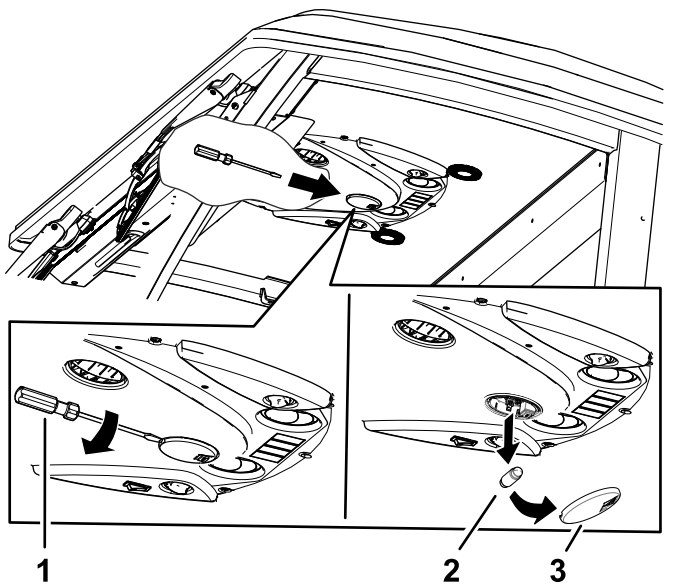

Figure 89
1. Use a screwdriver to remove the light lens from the control panel. (Figure 89).
2. Remove the bulb from the light base (Figure 89).